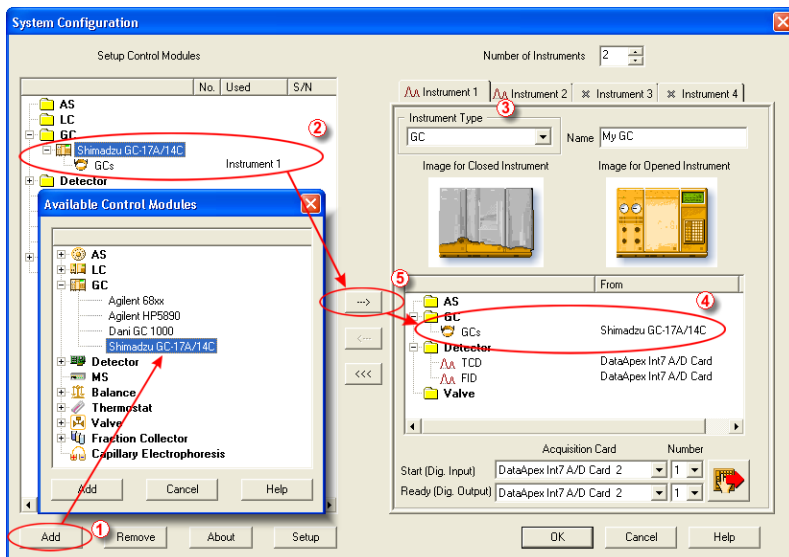

Fig 6: System Configuration
- In the **System Configuration** dialog press the **Add** button (① on **Fig 6** on pg 6.) to invoke the **Available Control Modules** dialog.